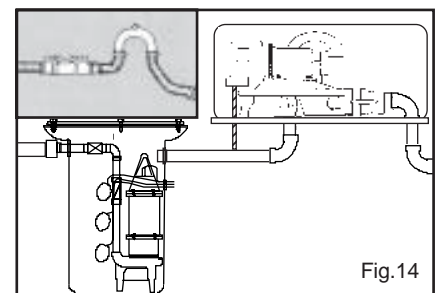

Fig.14
- **USING A DISCHARGE LOOP** - For sewage and sump applications when the discharge drains naturally down and away from the pump, installing a 8" to 10" positive loop right on the discharge port will improve the self priming feature. When you stop pumping the loop traps some liquid against the discharge valve improving the seal. See Fig.14